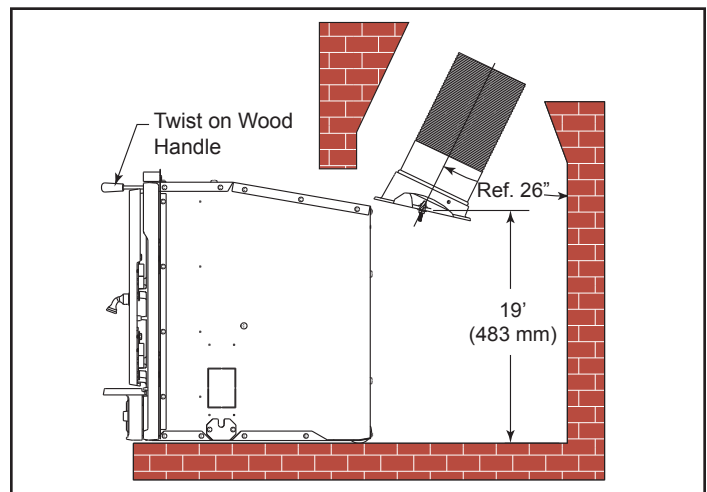

Figure 7 - Measured height from the finished hearth surface to the center bar of the flue collar.
- Install the connector pipe or liner so that the height measured from the finished hearth surface to the center bar of the flue collar is 19" (483 mm). (Figure 7) This will allow an easy connection once the stove is rolled into place.
10. Install the supplied wooden handle by twisting clockwise onto the primary air control. (Figure 7)